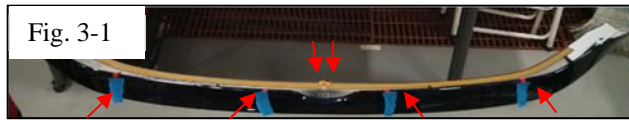

Fig. 3-1
- (a) Use masking tape to peel back the six tape liners slightly and secure them to the outer perimeter of the spoiler with masking tape (Fig 3-1). This is done to ensure that they do not slip underneath the spoiler during installation.